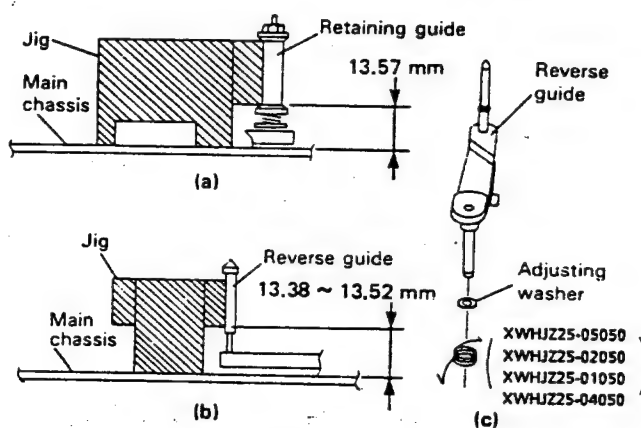

Figure 1-23.
1. Before the rough adjustment of tape drive train, check that the retaining guide and reverse guide heights are within the specified values of Fig. 1-23, by using the special jigs.